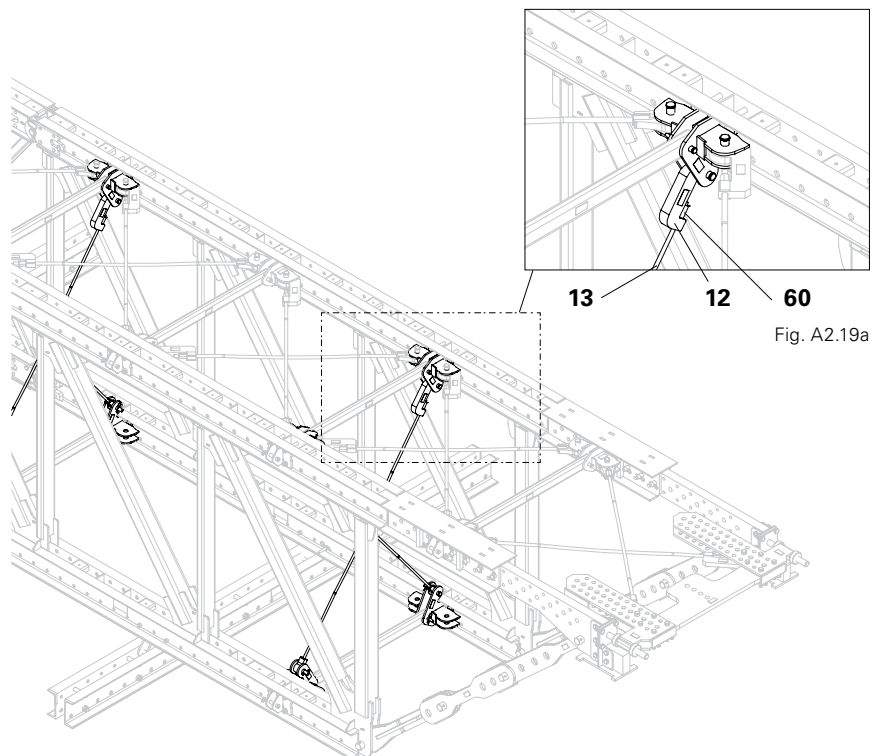

Fig. A2.19
- Swivel eye nut (11) diagonally opposite into the Vertical Bracing Shoe (4) in the bottom chord.
- Fix eye nut in position with bolts (45) and secure with cotter pins (40).
- Tighten all nuts (60) on the Articulated Spanner with a wrench and adjust the bracing struts so they are free of play. (Fig. A2.19)